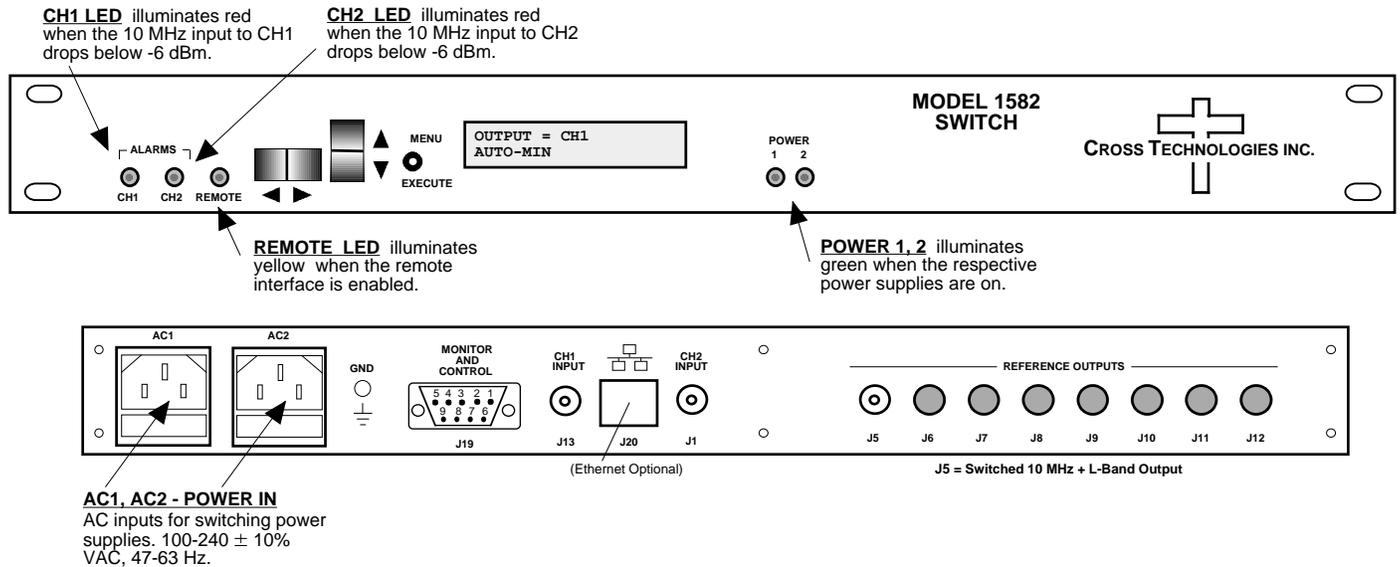

FIGURE 2.3 1582-1001LB Front AND REAR Panel Controls and Indicators
7. AC Fuse - The fuse is a 5 mm X 20 mm, 2 amp slow blow (Type T) and is inserted in the far slot in the drawer below the AC input as shown in Figure 2.3. There is a spare fuse in the near slot.
This section describes operation of the front panel controls. There are three operator switches, the LCD display and alarm indicator LEDs. All functions for the equipment are controlled by these components. The functions are (see Figure 2.3):